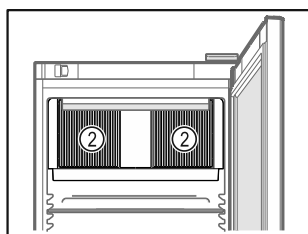

Fig. 58
- ❑ Ventilation slots Fig. 58 (2) for recirculation fan in the interior must be kept clear.